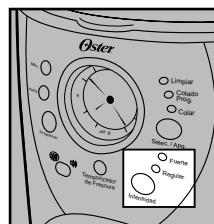

Figure 7
2. To enjoy a more full flavored cup of coffee, press the Brew Strength (INTENSIDAD) button once. The Strong (FUERTE) brew strength red light will turn on. The coffeemaker will remain in the brew strength you have selected until you change it back to regular strength by pressing the Brew Strength (INTENSIDAD) button or until you unplug the machine (Figure 7).